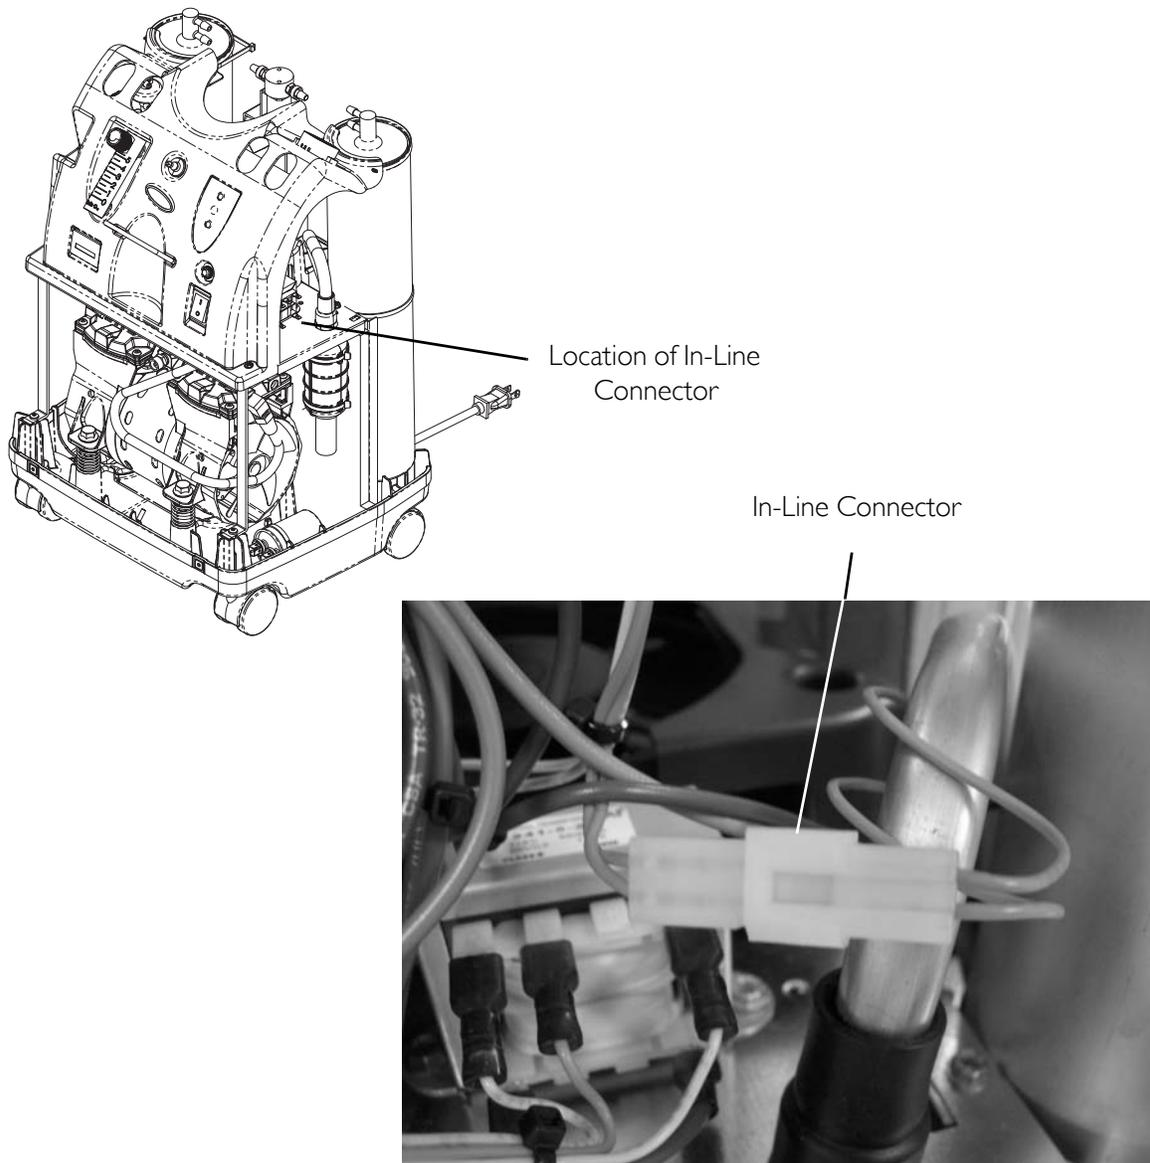

FIGURE 24.2 High Pressure Test
NOTE: For this procedure, refer to FIGURE 24.2 on page 83.
1. With the unit running and flow set at 5 L/min., disconnect in-line connector shown in FIGURE 24.2.
2. The main valve coil alarm should activate within 40 seconds. Refer to SensO₂ Alarm Threshold on page 84 for shutdown mode (FIGURE 24.2).